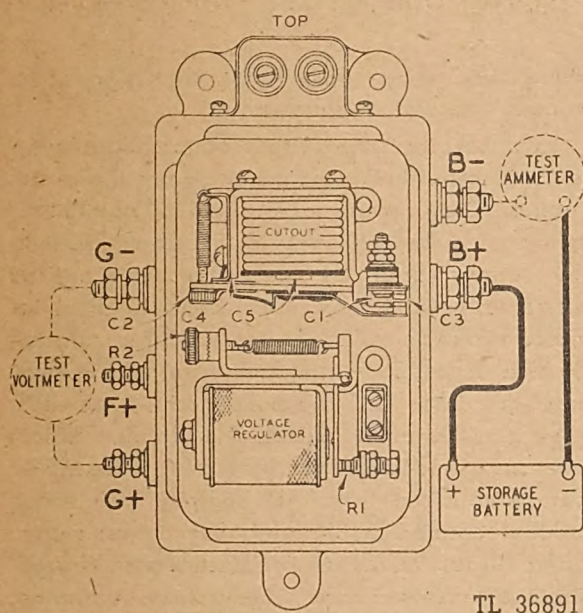
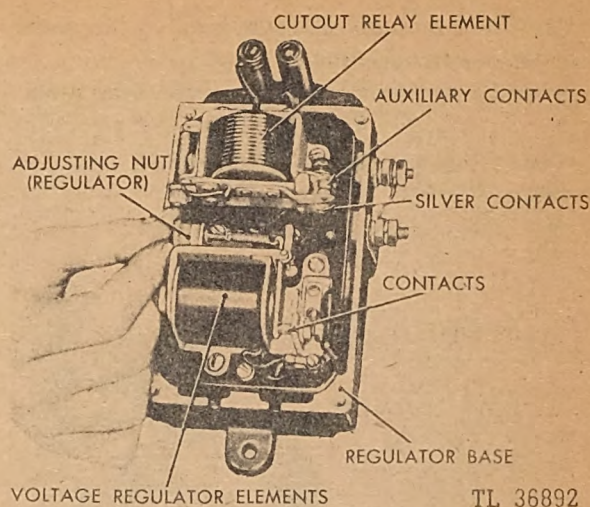

Fig. 239. Line Drawing Voltage Regulator
Fig. 240. Adjusting Voltage Regulator
*e. Setting Voltage Regulator.* Turn the generator at 2000 r.p.m. and set the voltage regulator at 28.4 to 28.6 volts, open circuit. The battery should be disconnected from the B—terminal. Refer to Figure 239. Connect a voltmeter to the G— and G+ terminals of the regulator. Run the generator at slower speeds; then speed up to 1500 to 2000 r.p.m. The voltmeter should read 28.4 to 28.6. If not, turn the adjusting nut (R2) clockwise (see Figure 240) to raise the voltage, or counterclockwise to lower it. The contact (R1) should be open momentarily after each adjustment and allowed to close.
*h. Generator Third Brush Adjustment.* If the generator has been overhauled, the third brush should be set. Connect the ammeter to B— and to the battery line as shown on the Regulator Diagram, Figure 239. Run the generator over the entire speed range and the charging rate noted. The meter should never read over 10 amperes at any speed. Adjust the third brush to this maximum value and lock it at this point by means of the brush holder screws. Tests should be made with the battery at 1.200 to 1.225 specific gravity. The generator and regulator must be allowed to run at least 15 minutes at 1500 r.p.m. to make certain that they are sufficiently heated to insure the correct final setting.